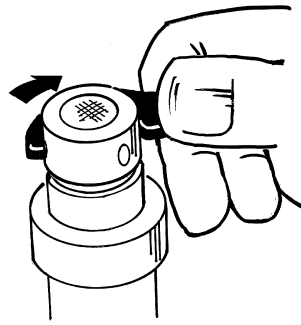

FIGURE 4-17
3. Using the metal tool in the optional Model 5920-2 re-charge kit, secure the protection cap with an extra 1/8 to 1/4 turn as shown in Figure 4-17.